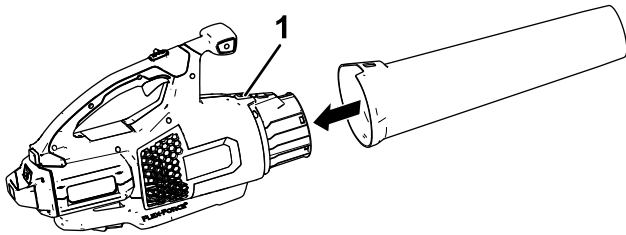

Figure 1
Slide the blower tube onto the blower housing. You may need to press down on the tube latch for the blower tube to lock into place (Figure 1).
3. Grasp the handle and push the battery pack into the handle until the latch locks into place (Figure 1).